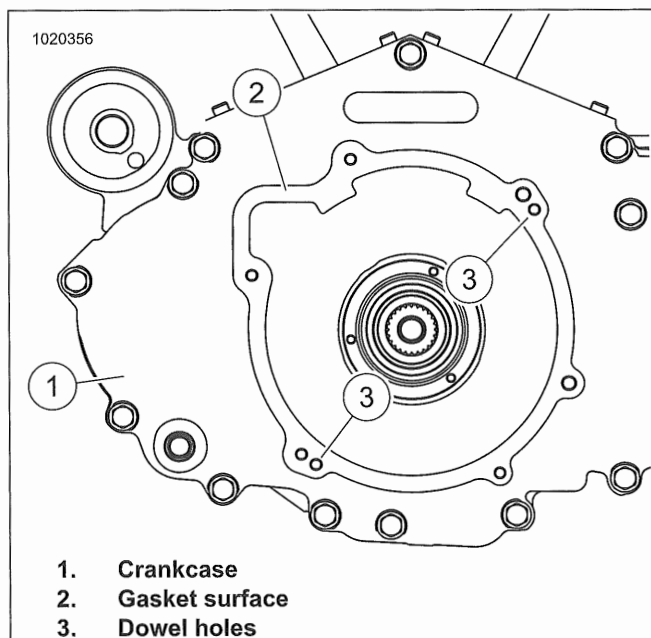

Figure 5-27. Crankcase
1. See Figure 5-27. Install gasket on surface (2). Verify dowels in gasket engage dowel holes (3).